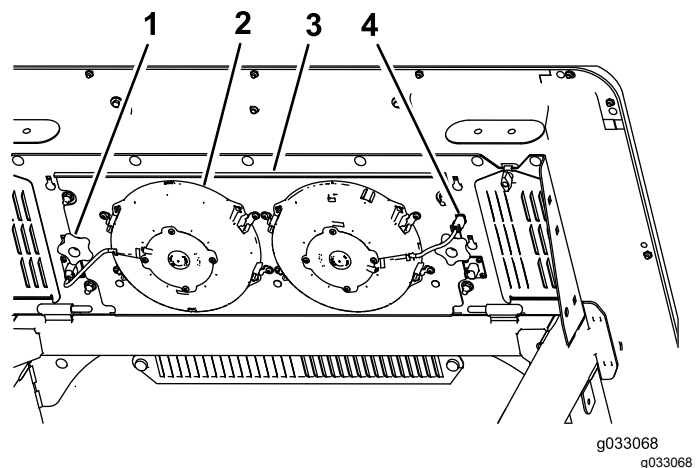

Figure 95
2. Tab (4)
3. Disconnect the plug and cord for the fans from the outlet (Figure 95).
4. Remove the 2 knobs that secure the fan-panel assembly and fans to the underside of the cab top (Figure 95) and remove the assembly.